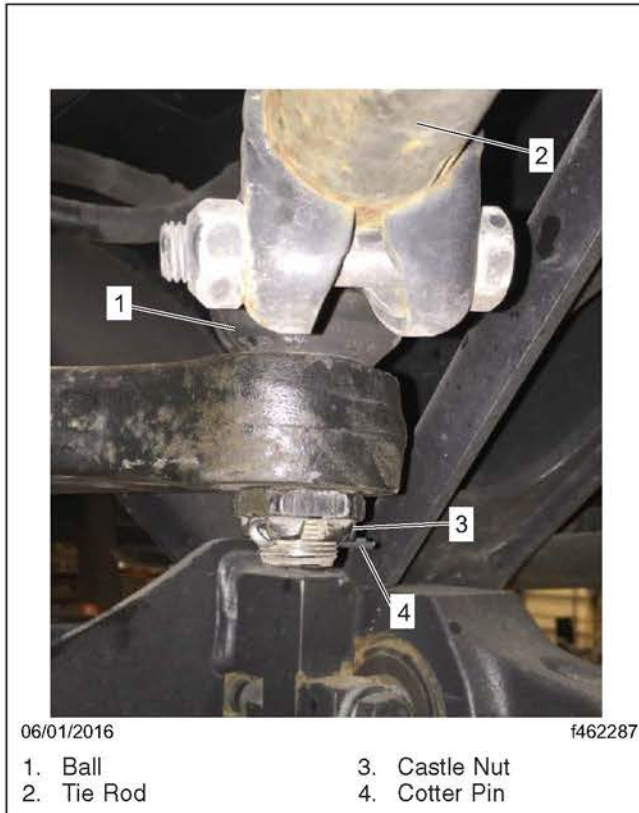

Fig. 18, Tie Rod Installation
- 14.1 Insert the tie rod end in the pitman arm taper. Connect the tie rod end. See Fig. 18.